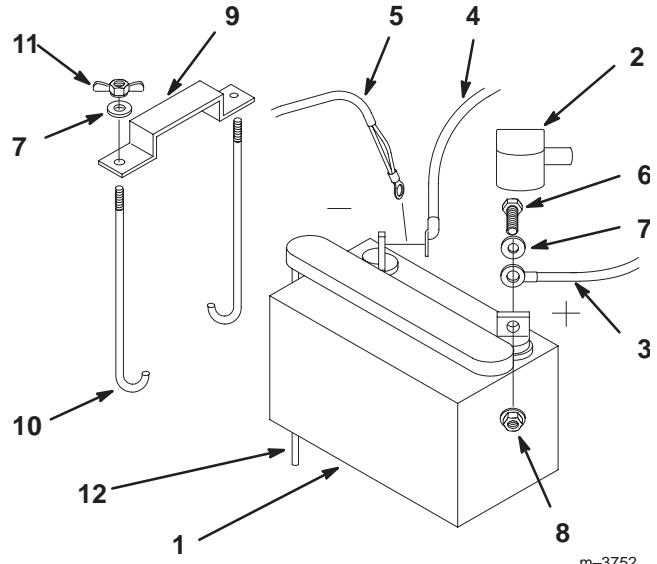

Figure 7
1. Position battery in tray with terminal posts toward the engine (Fig. 7).
4. Secure cables with (2) 1/4 x 3/4" (19 mm) bolts 1/4" washers and 1/4" locknuts (Fig. 7).
6. Secure battery with J-bolts, hold down clamp and (2) 1/4" washers and (2) 1/4" wing nuts (Fig. 7).